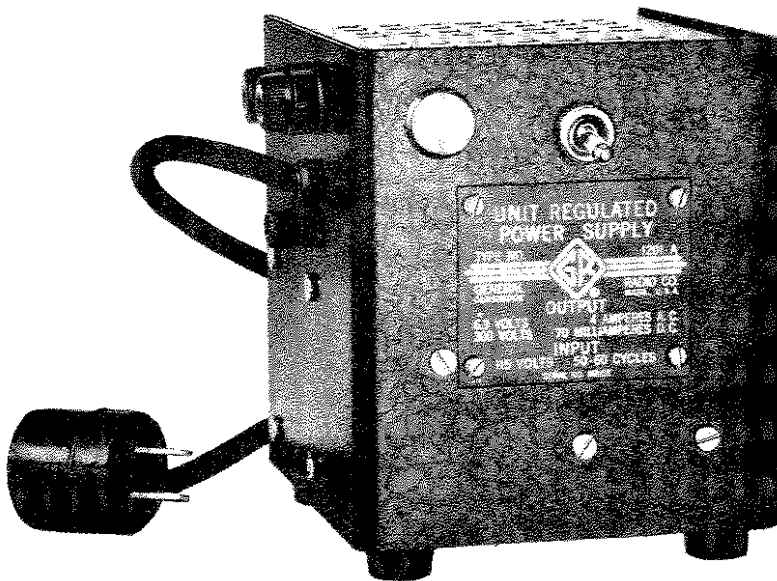

Figure 1. Panel View, Type 1201-A Unit Regulated Power Supply.
1.1 PURPOSE. The Type 1201-A Unit Regulated Power Supply (Figure 1) is designed to provide a source of regulated power for other Unit Instruments. It can also supply instruments other than those of the Unit Line, by means of a mating connector provided.